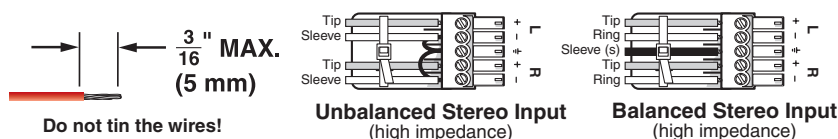
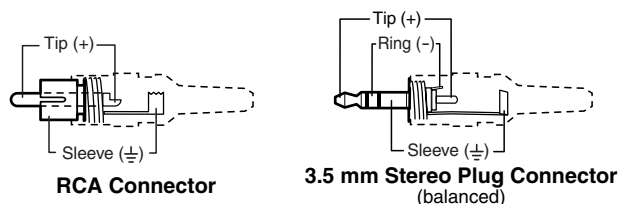
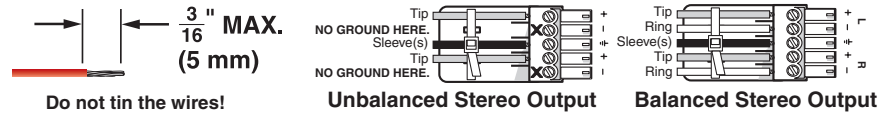

Figure 2-2 — Captive screw connector wiring for audio inputs
Figure 2-3 — Typical audio connectors
Figure 2-4 — Captive screw connector wiring for audio output
- ③ **Connections for balanced and unbalanced audio inputs** — Each input has a 3.5 mm, 5-pole captive screw connector for balanced or unbalanced stereo audio input. Connectors are included with each switcher, but you must supply the audio cable. See figure 2-2 to wire a connector for the appropriate input type and impedance level. Use the supplied tie-wrap to strap the audio cable to the extended tail of the connector. High impedance is generally over 800 ohms.
NOTE See figure 2-3 to identify the tip, ring, and sleeve parts of the connector when you are making connections for the switcher from existing audio cables. A mono audio connector consists of a tip and sleeve. A stereo audio connector consists of a tip, ring and sleeve. The ring, tip, and sleeve wires are also shown on the captive screw audio connector diagrams, figure 2-2 and figure 2-4.
- ④ **Connections for balanced and unbalanced audio outputs** — These 3.5 mm, 5-pole captive screw connectors output the selected unamplified, line level audio. Connect audio devices, such as an audio amplifier or powered speakers. See figure 2-4 to properly wire an output connector. Use the supplied tie-wrap to strap the audio cable to the extended tail of the connector.